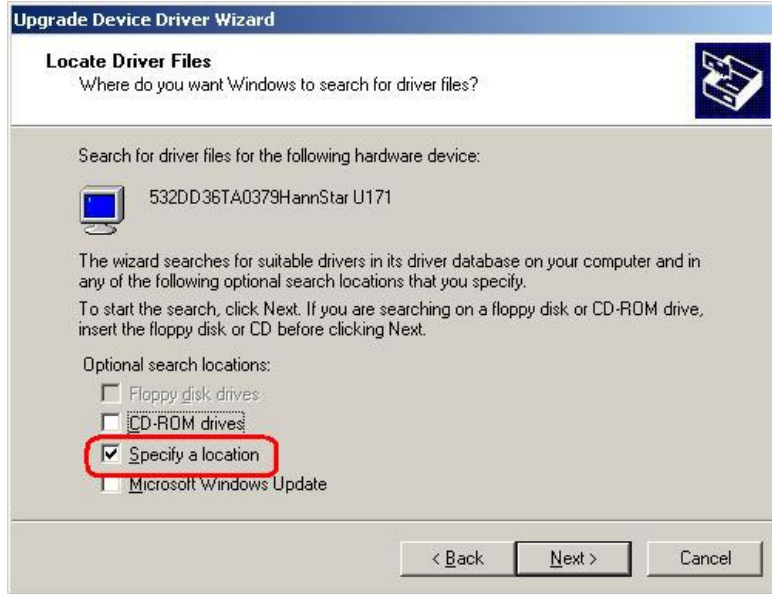

Figure 7-17: Locate Driver Files
Step 7: Select “Specify a Location” in the **Locate Driver Files** window (Figure 7-17).